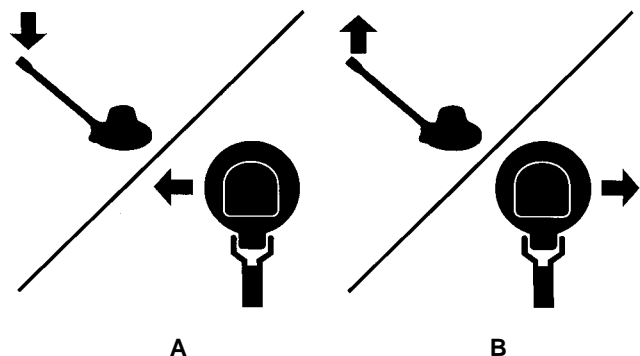

FIG. 6.
4. To move left, slightly lower handle and machine will move left. (Figure 6.A) To move right, slightly raise handle and machine will move right (Figure 6.B). Work machine with a side to side motion when operating.